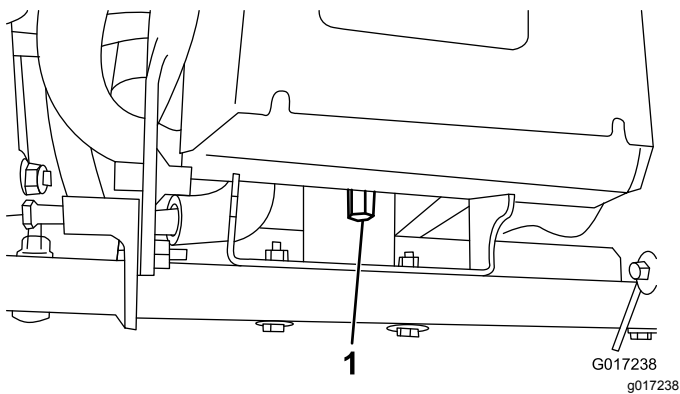

Figure 11
4. Remove the tall nut that secures the rear of the battery base to the machine frame (Figure 11).